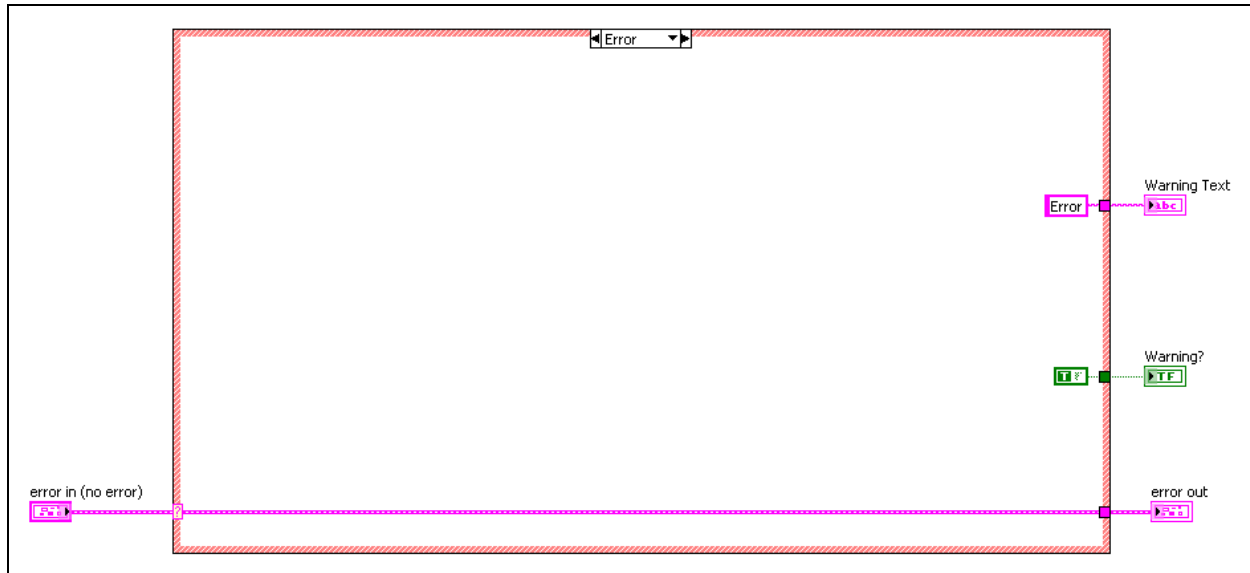

Figure 6-10. Error Case of Determine Warnings VI
- Confirm that you have completed the Error case as shown in Figure 6-10.